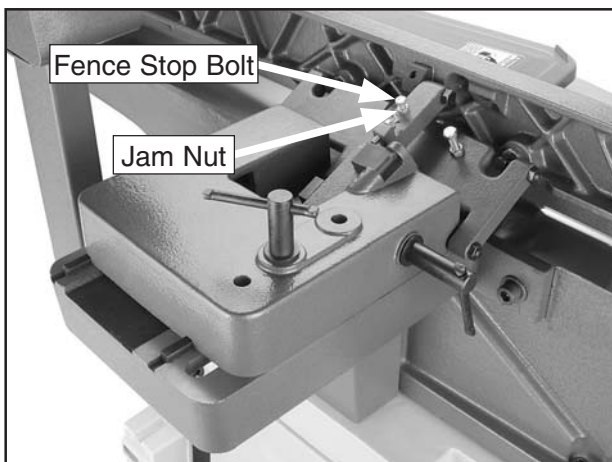

Figure 45. 45° inward fence stop components.
2. Loosen the jam nut shown in **Figure 45**.